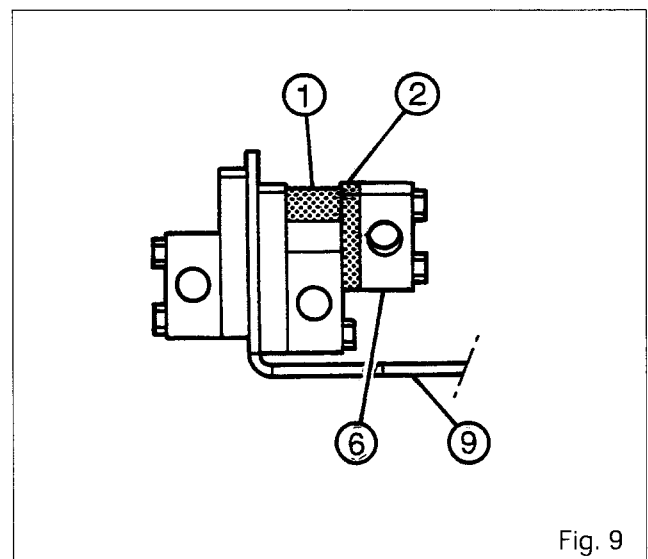

Fig. 9
**Note :** The clevis (1) can be fitted on link rod A or B depending on the type of spool valve.
10. Insert the cable into the attachment point (6).
**Note :** When the attachment (6) is offset (with the spool valves in the floating position), fit the spacer (1) and the plate (2) as shown in Fig. 9.
11. Screw the clevis (1) level with the threaded section of the cable (2) and fit the link rod A or B of the lever L concerned. Position the clip (7).
### On spool valves (Fig. 9)